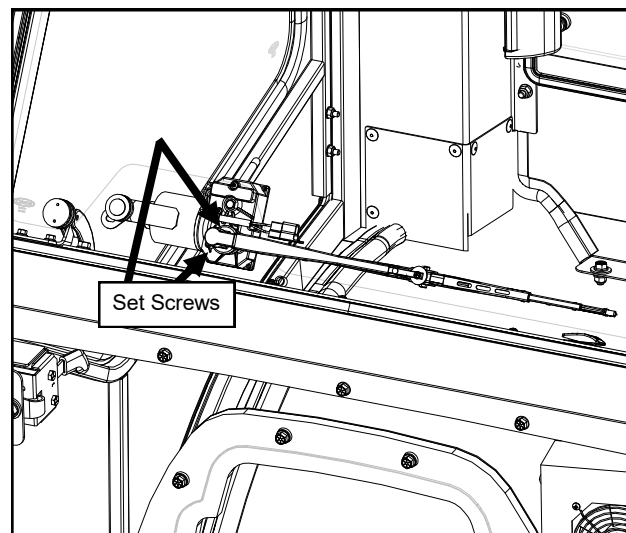

Fig. 21.3 (Wiper Arm and Blade)
- 21.3 Install the wiper arm onto the wiper motor so that the wiper is horizontal. See Figure 21.3. Tighten the Set Screws.